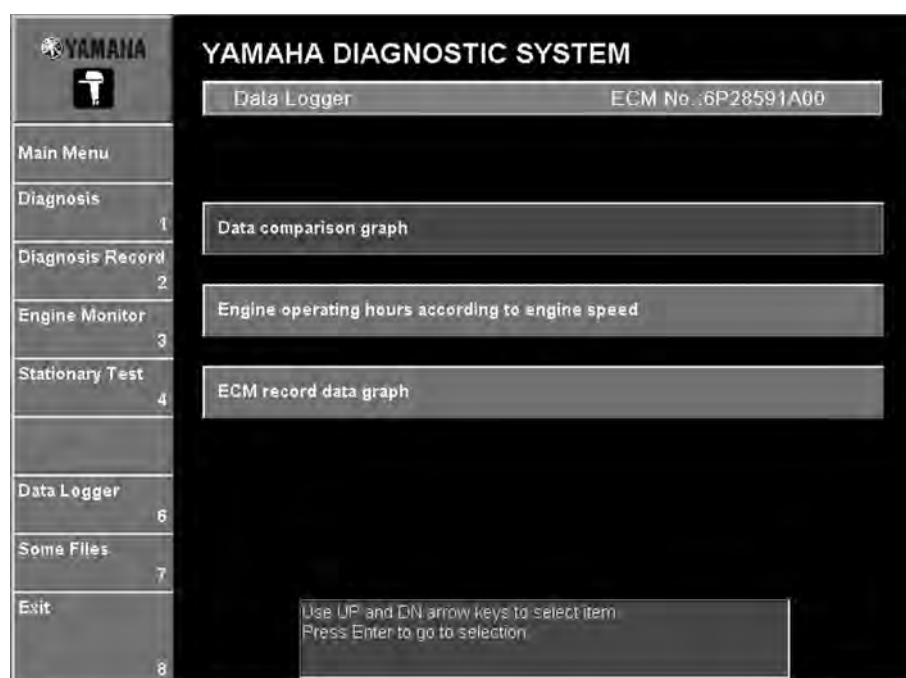

Fig. 108
1. Click the **Data comparison graph** button or press the up or down arrow key on your keyboard to select it and press the Enter key. (Fig. 108)
1. Click the **Engine operating hours according to engine speed** button or press the up or down arrow key on your keyboard to select it and press the Enter key. (Fig. 108)